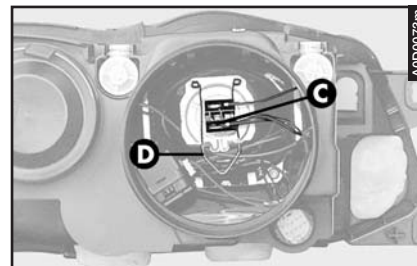

fig. 40
- Disconnect the snap-fitted connector (**C- fig. 40**).